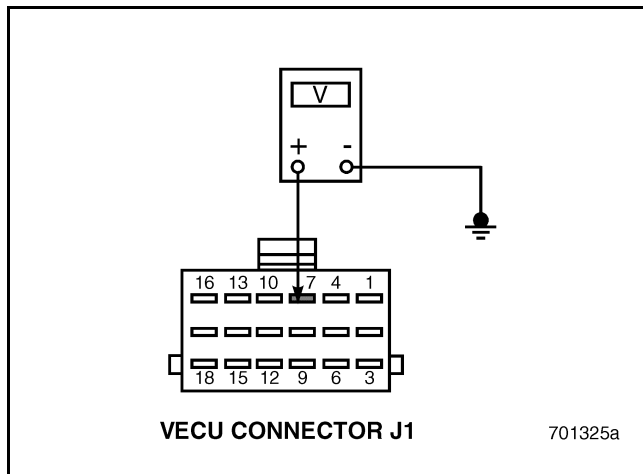

Figure 701
4. With the Speed Control Set/Decel Switch OFF, measure the voltage between VECU connector J1 pin 7 and a good ground (see Figure 701).